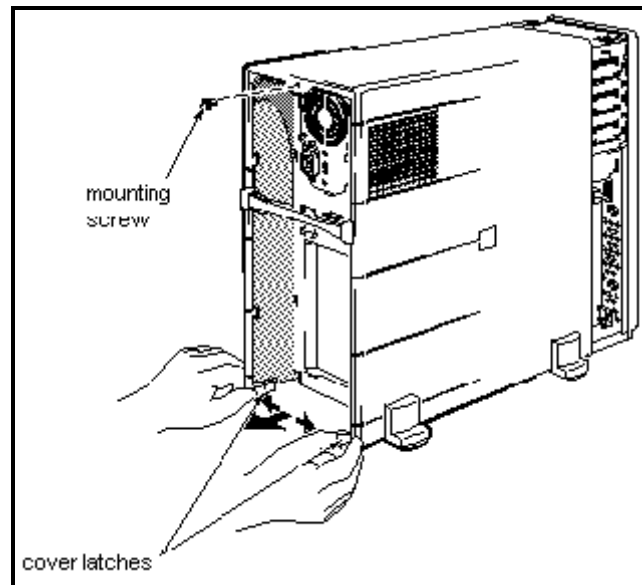

Figure 1
5. Slide or lift the computer cover from the chassis (figure 1).